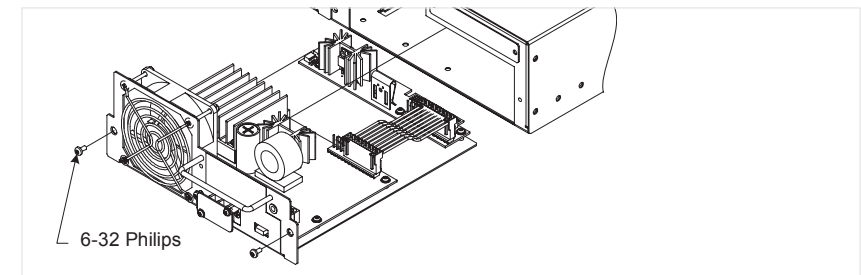

Figure 10: Power Supply Installation
5. Slide the second power supply in to the chassis as shown in Figure 10.
6. Secure the power supply to the chassis with the two (2) 6-32 philips head screws.